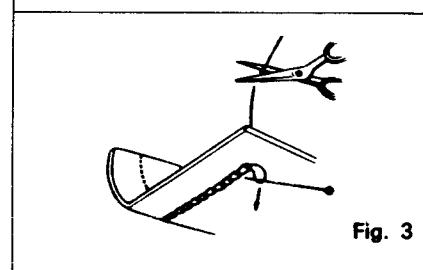

Fig. 3
3. Holding the last stitch and material between your thumb and finger, cut the thread and pull thread to the underside. This will lock the last stitch. See illustration (Fig. 3).